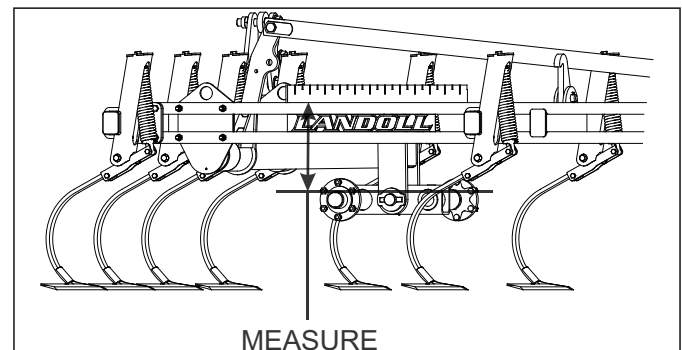

Figure 4-8: Leveling Center Frame from Side to Side
2. To level the unit, verify that all tires are properly inflated. With the implement unfolded, raise the unit to fully extend the lift cylinders. Continue to hold the tractor lever 30-60 seconds to insure that the cylinders are fully extended and the rephasing lift system has been purged of air. Lower the implement until the sweeps are approximately 1" off the ground. On the center frame, lay a straight-edge across the top of the frame, and measure the distance from the walking tandem spindle to the top side of the frame of both walking tandems *See Figure 4-8*. Adjust the lift arms at the front of the Field Cultivator center frame until the spindle heights are the same.